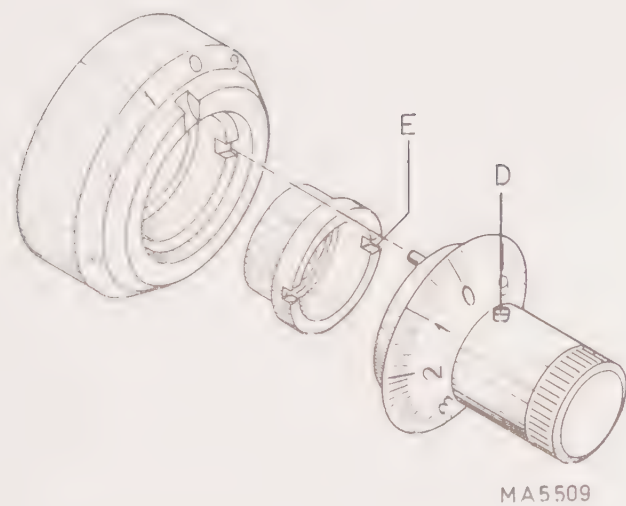

Fig. 3.3. Removing the delay-time multiplier knob
3.3.3.3. *Delay-time multiplier knob (Fig. 3.3)* (not for PM 3260E)